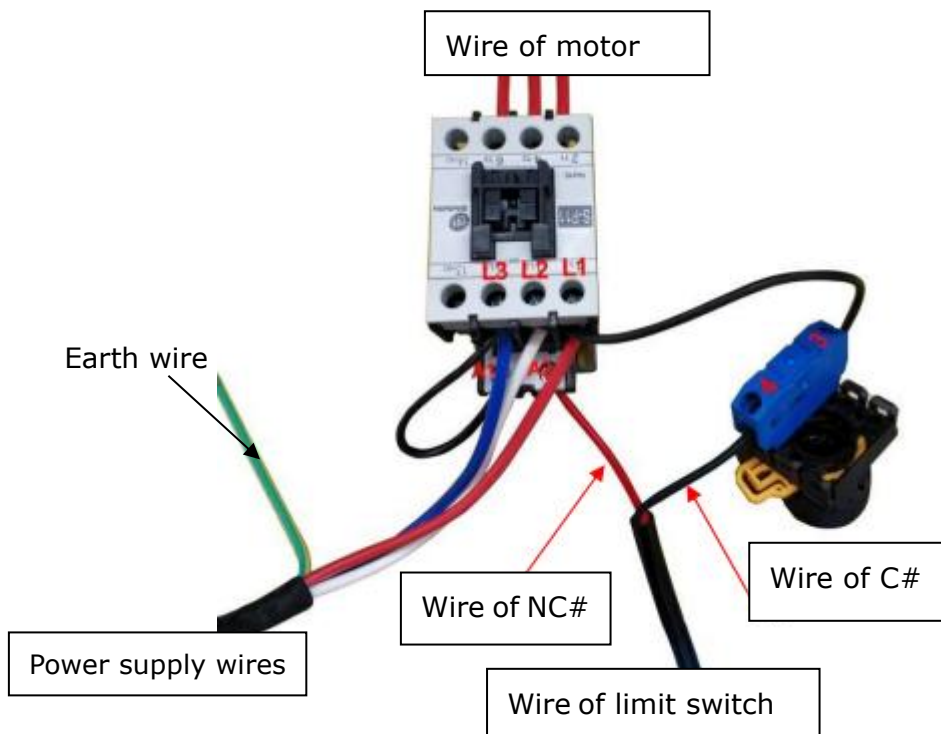

Fig. 35
2. Connection step (See Fig.35)